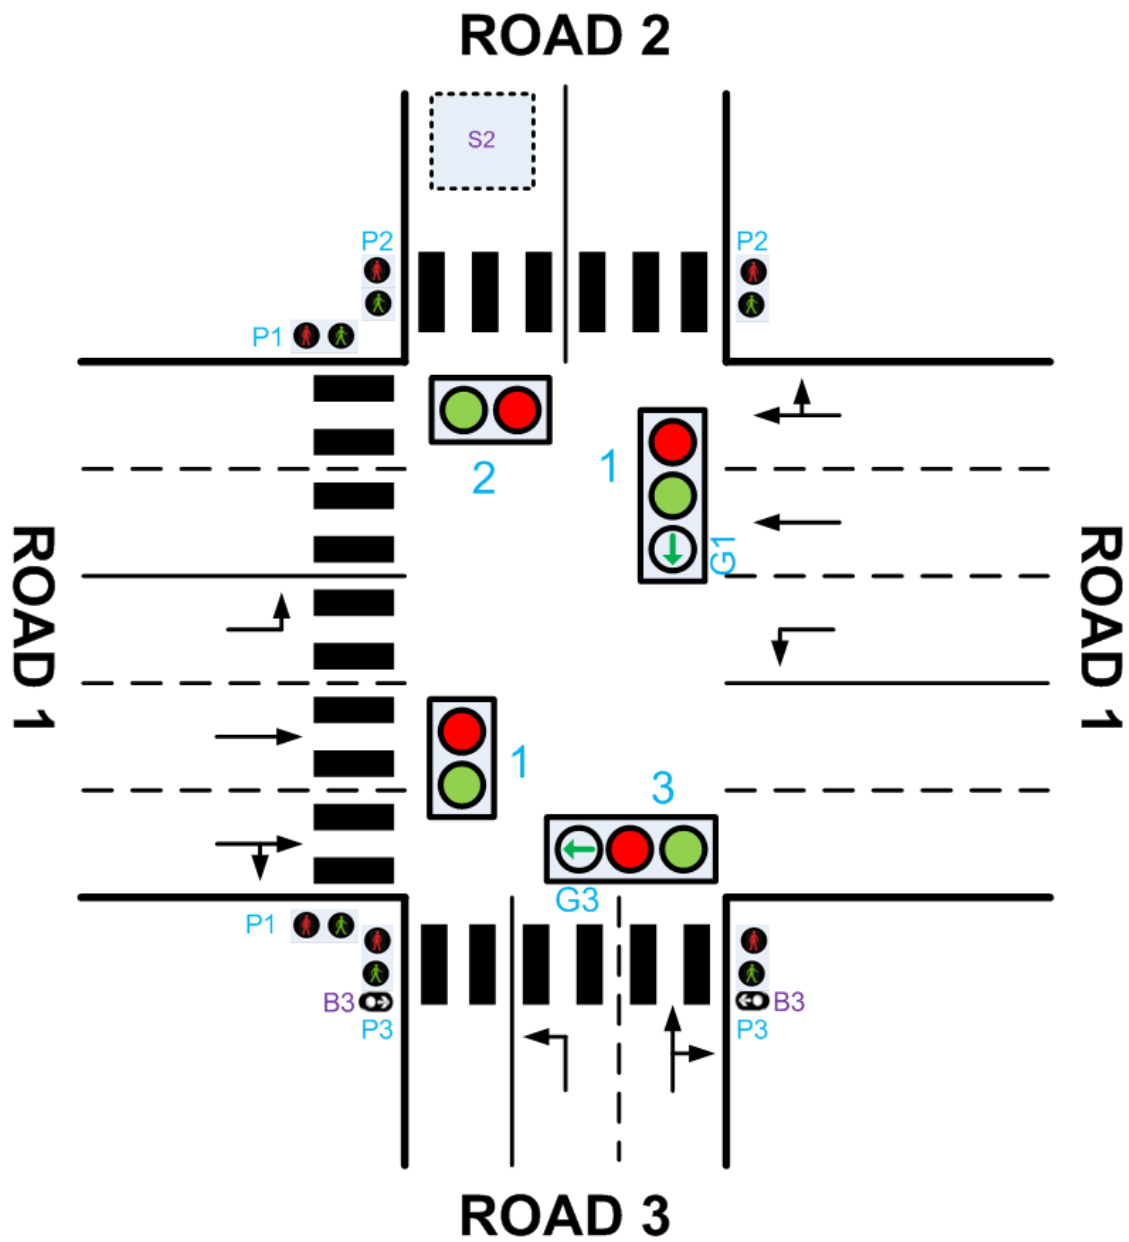
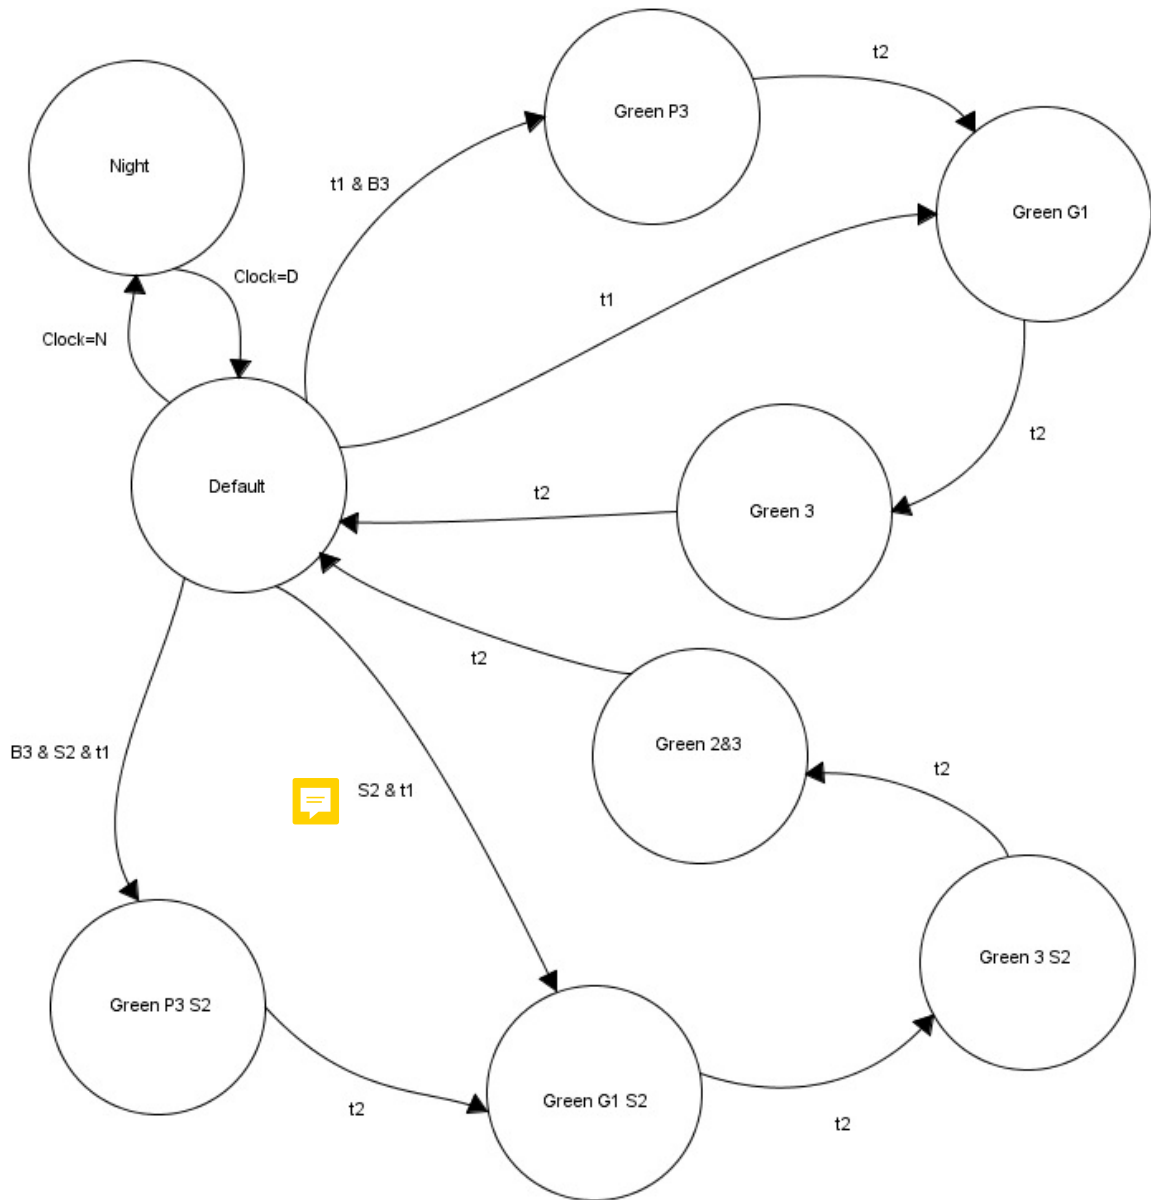

Figure 1: Illustration of the intersection. Labels are defined in Section 2 on page 2
Figure 2: State machine diagram for the system. States are defined in Section 5 on page 3
- Labels **1,2,3,P1,P2,P3,B3,S2,G1,G3** are defined on page 2 and in Figure 1 on page 1. The state diagram (Figure 2) can be found on page 7